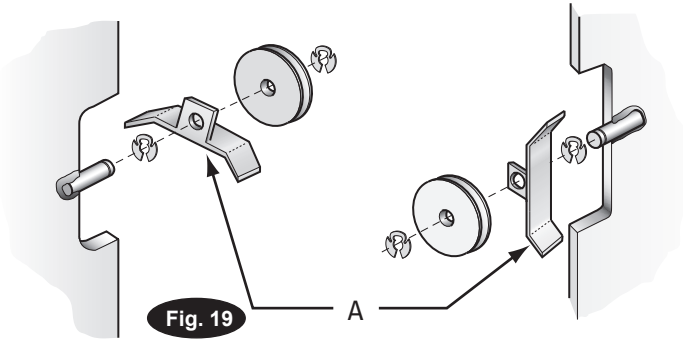

Fig. 19 Detail
- A) Install latch cable sheave, sheave covers, and retaining rings in upper slot of power unit column as shown, Fig. 19.